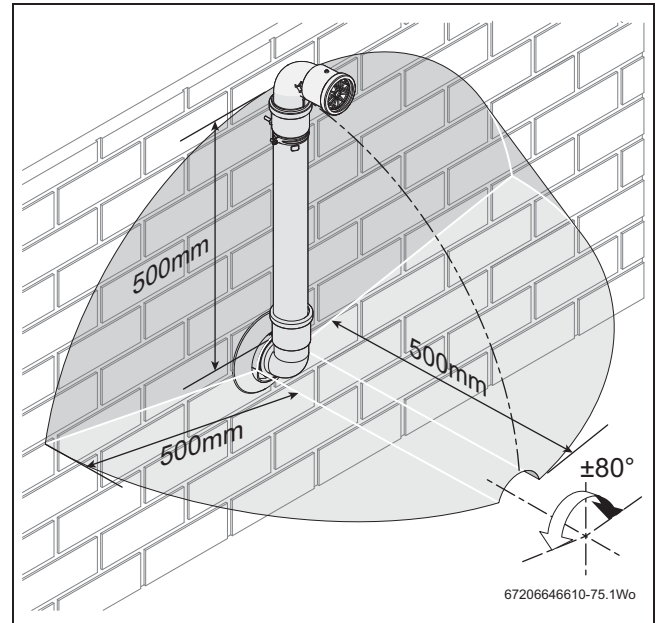

Fig. 21 Terminal exclusion zone
The minimum plume length should be calculated to ensure that the air inlet and exhaust have a minimum distance of 500mm between them (→ figure 21).
- ▶ Do not terminate the plume management inside the shaded area shown in figure 21